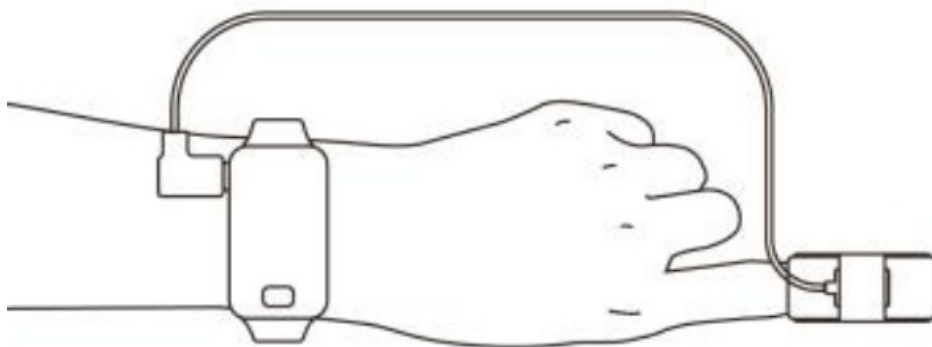

Figure 4 Sketch map for finger placement
- Insert a finger into the probe, as shown in Figure 4.
(the appearance of the actual probe may be different with the one shown as Figure 4, please refer to the actual one.)